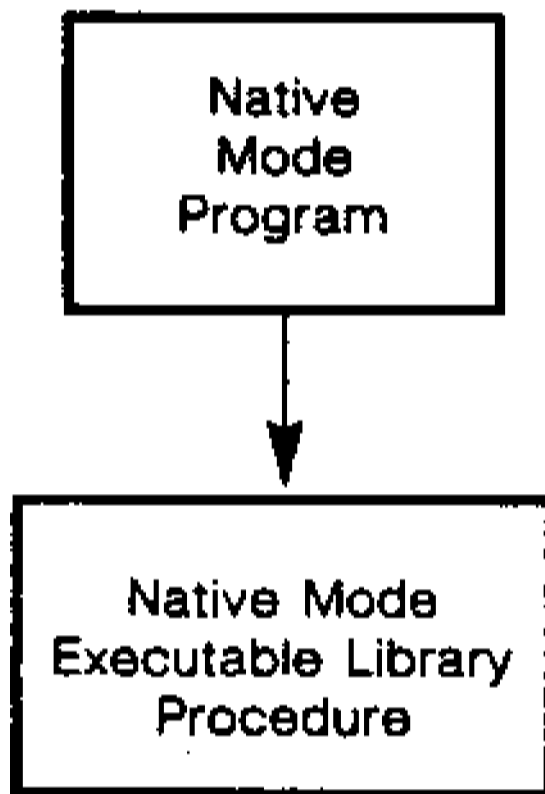

Figure 1-5. Native Mode Execution Model
2. You can run NM programs (after full recompilation), and, from that code, call procedures that are located in an NM Executable Library. In this instance, all execution is within Native Mode, and again no apparent mode switching on the part of your program is involved. This is demonstrated in Figure 1-5.